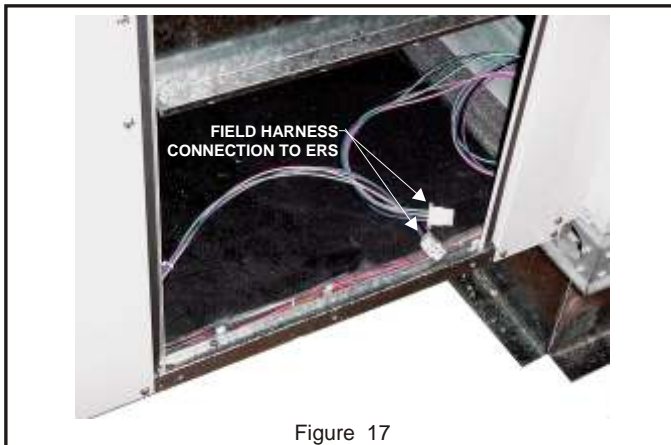
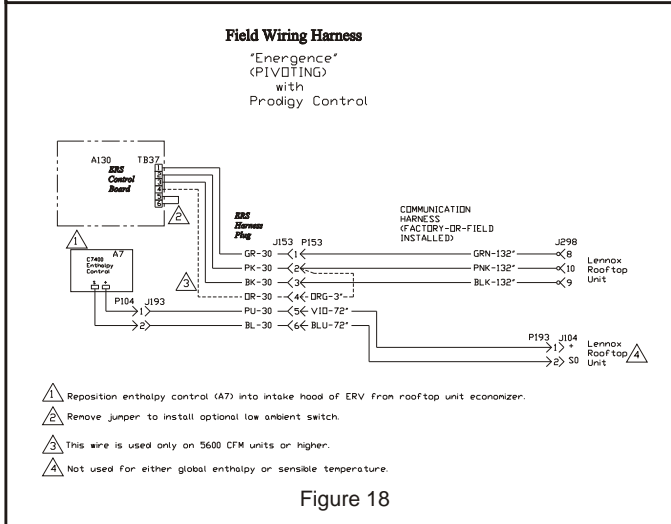

Figure 17
Figure 18
11. Remove the control access panel and locate the 6-pin connector P153 wiring harness that was previously routed into the return air of the rooftop unit. Plug the harness connector P153 into the connector J153 located at the bottom of the access door inside the ERS. See **Figure 17** and **Figure 18**.